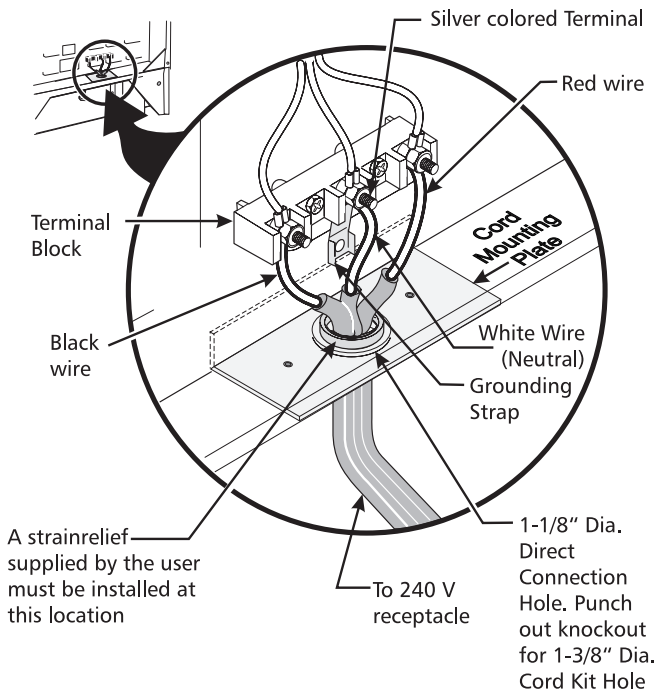

Figure 3
**NOTE:** Dual fuel Slide-in Range is shipped from factory with 1 1/8" dia. hole as shown on figure 3. If a larger hole is required, punch out the knockout.
(The 3-conductor cord or cable must be replaced with a 4-conductor cord or cable where grounding through the neutral conductor is prohibited in new installations, mobile homes, recreational vehicles or in other areas where local codes do not permit neutral grounding) If local codes permit connection of the frame grounding conductor to the neutral wire of the copper power supply cord (see Figure 3).
4. Replace the 3 nuts on the terminal block. (See figure 3)